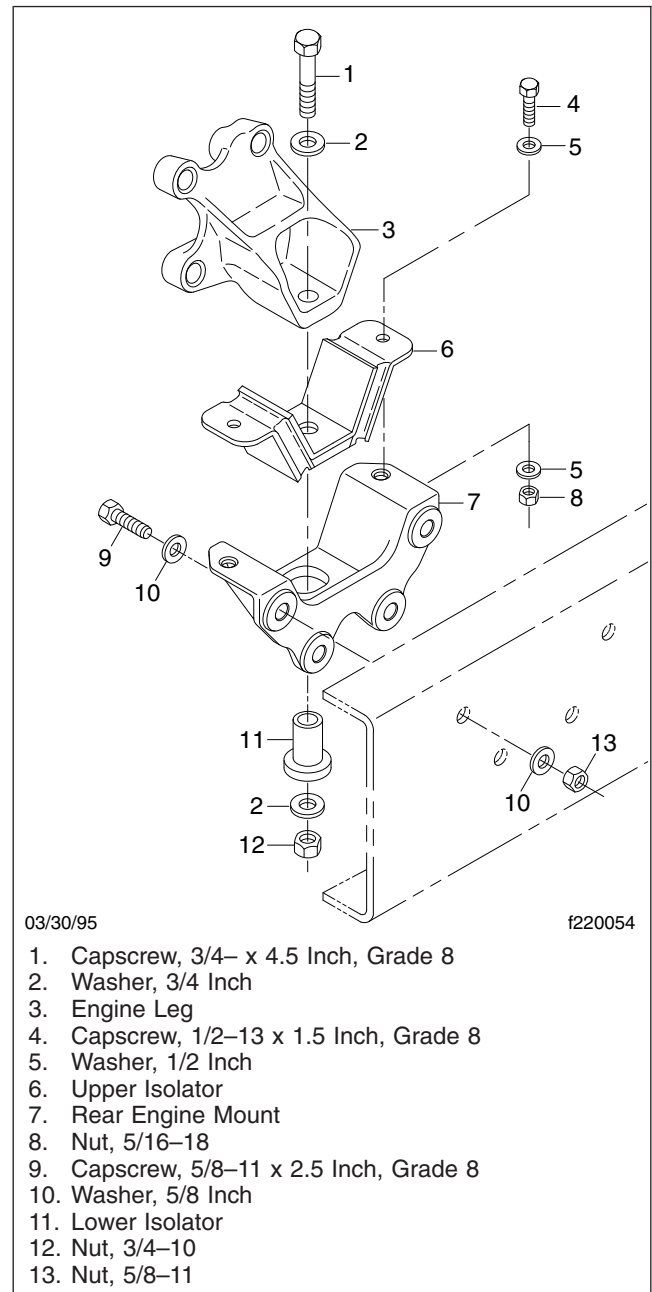

Fig. 13, Rear Engine Mount Assembly (pre-EPA07 engines)
Frame brackets and components secured with Huck-bolt® fasteners do not require a torque check, however, they should be inspected for damage. Frame brackets and components secured with conventional bolts and nuts are to be checked at initial maintenance (IM). See **Fig. 13** for pre-EPA07 engine mounts. Check the torque of frame fasteners to offset the effects of "bedding in" (or seating). When possible, always check the torque of the nut, not the bolt head. This will give a true torque reading by eliminating bolt body friction. When checking the torque of frame fasteners, inspect the frame for cracks and other damage. Set a click-type torque wrench to the maximum torque of the fastener you are checking. Apply pressure until the torque wrench clicks. Do not loosen the bolt to check the torque. See the applicable torque table in **Group 00** for torque specifications.